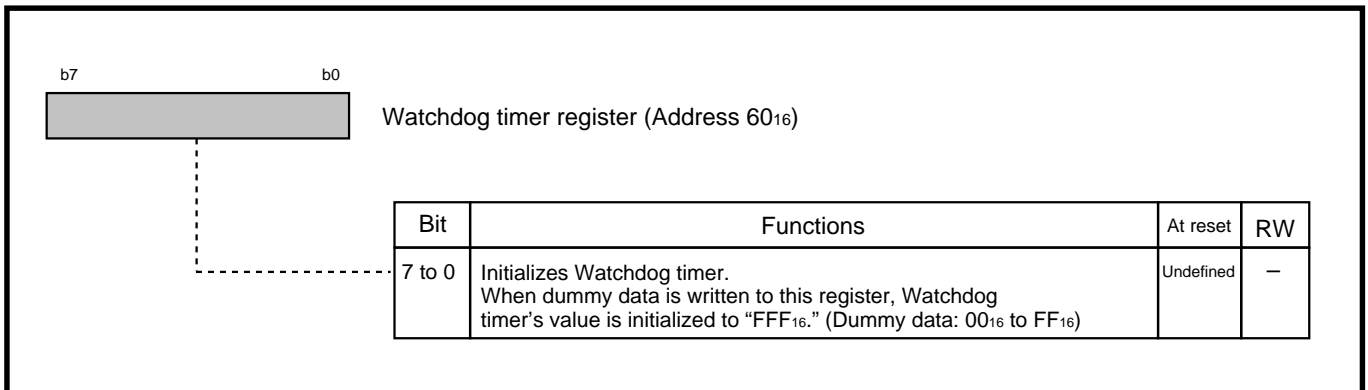

Fig. 15.1.2 Structure of watchdog timer register
- When dummy data is written to the watchdog timer register (Refer to “**Figure 15.1.2.**”)